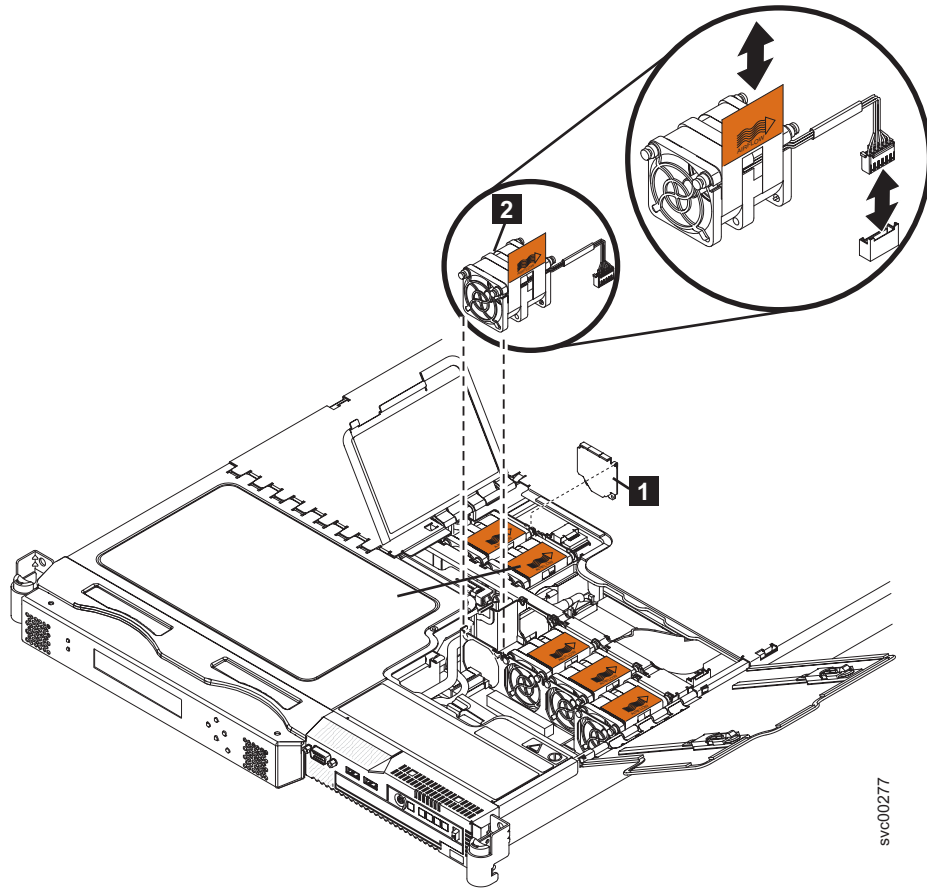

Figure 209. SAN Volume Controller 2145-8G4 fan 3
5. Remove fan 3, as shown in Figure 209 on page 225.